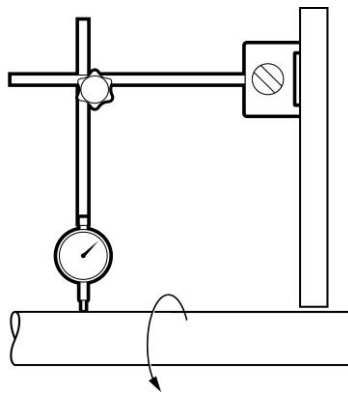

Figure 1
3.3 **Concentricity of the Shaft:** With the dial indicator mounted to a solid part of the machine, place the indicator tip on the shaft and rotate the shaft. The Total Indicated Reading should be within value shown in **Table 1**. See **Figure 1** below.